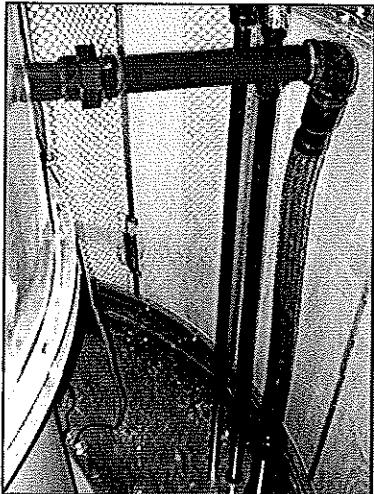

Figure 28
The  $1\frac{1}{2}$ " 10520, 10630, and 10730 and the 2" 101050 and 101275 Burner Vapor Supply lines from Burner Control Manifold to Burner use  $1\frac{1}{2}$ " Stainless Steel Braided Hoses with unions to connect to the Burner. (1) of the 2" unions has a 2" to  $1\frac{1}{2}$ " reducer bushing for the  $1\frac{1}{2}$ " Braided Hose. See Figure 28.